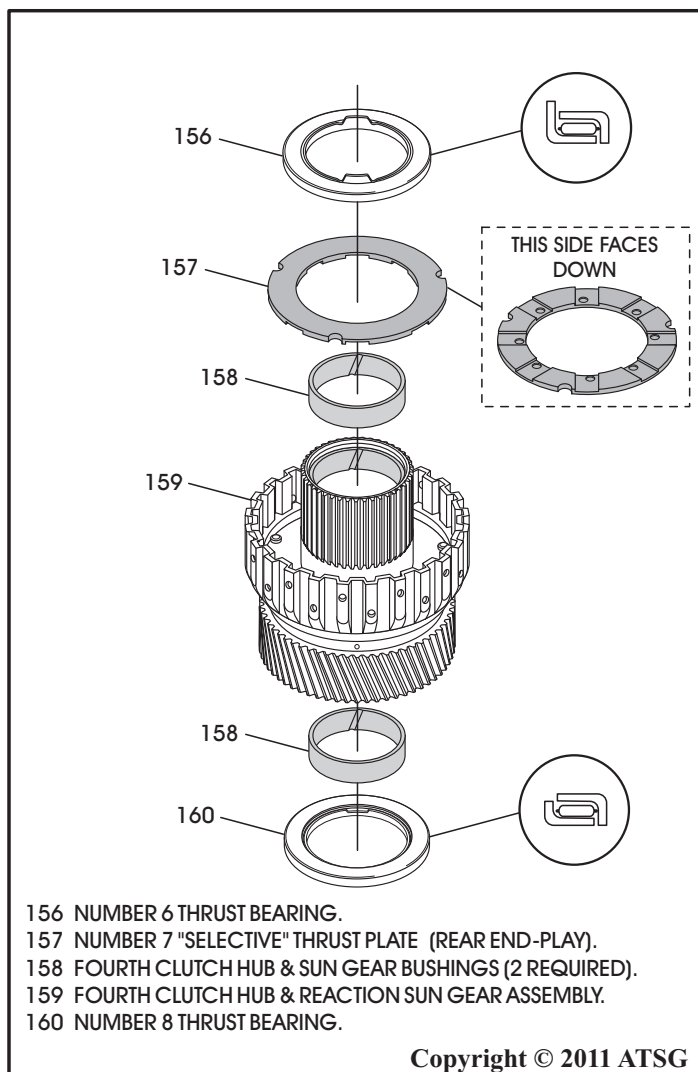

Figure 86
4. Install number 7 *selective* thrust washer into 4th clutch hub/reaction sun gear with the "grooved" side facing down, as shown in Figure 86, and ensure it is fully seated over the locating tabs.
6. Install the number 6 thrust bearing on top of the number 7 selective thrust washer in the direction shown in Figure 86 and retain with small amount of Trans-Jel®.